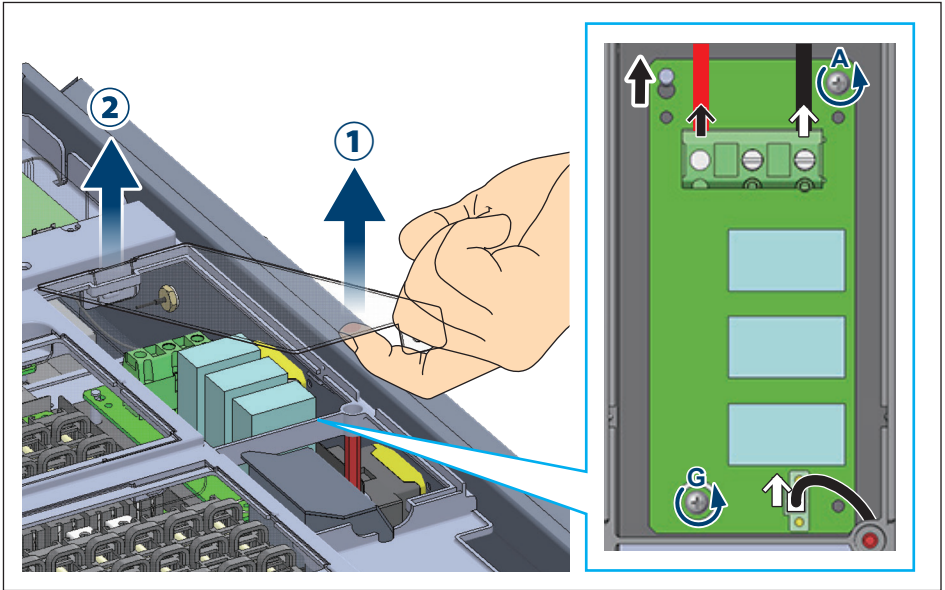

Figure A-3: Open the DC SPD shield cover
1. Open the shield cover. (**Figure A-3**)